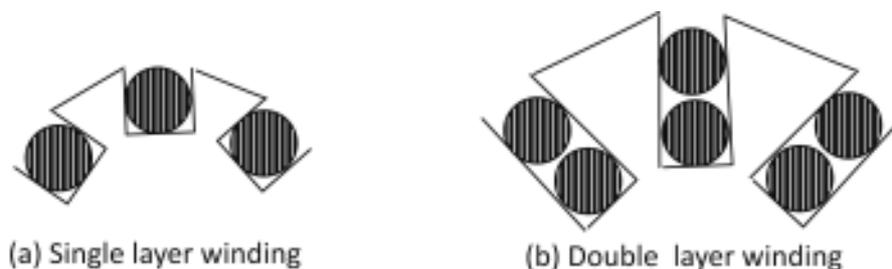

Fig.3.12 - Single layer and double layer winding
**3.14 SINGLE LAYER WINDING :** In this type of winding, as shown in Fig. 3.12 (a), each slot contains only one coil side. It means a coil occupies two complete slots. The number of coils in the machine is equal to half the number of slots in the stator, or rotor and armature.
**3.15 DOUBLE LAYER WINDING :** In this type, as shown in Fig. 3.12 (b), each slot contains two coil sides, housed one over the other. The number of coils is equal to the number of slots in the stator and armature.
**3.18 CONCENTRIC WINDING :** Concentric windings are single layer windings. This winding has two or more than two coils in a group and the coils in each group have the same centre. In each group, the coil pitch is not equal and therefore do not overlap each other, as shown in Fig. 3.12. The coil span of the individual coils is different. The coil span is more than a pole pitch while the span of others is equal to or less than the pole pitch. These windings are so designed that the effective coil span of the winding is equal to that of a winding as a full pitch winding with some of the coils having a span greater than a pole pitch, some with less than a pole pitch but an effective span which makes the winding behave as if it had full pitched coils.